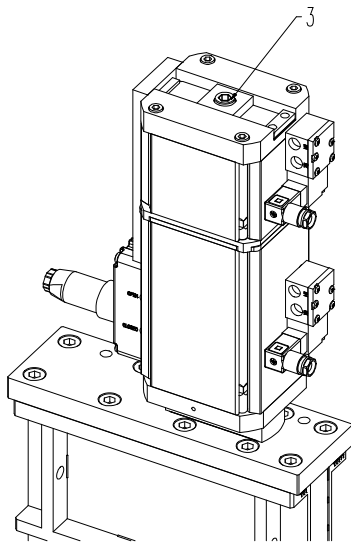

Figure 7-1
1. Activated solenoid valve (1); see «Figure 7-1» on page 18.
2. De-activated solenoid valve (2).
3. Adjust the intermediate position by turning the adjustment screw (3).